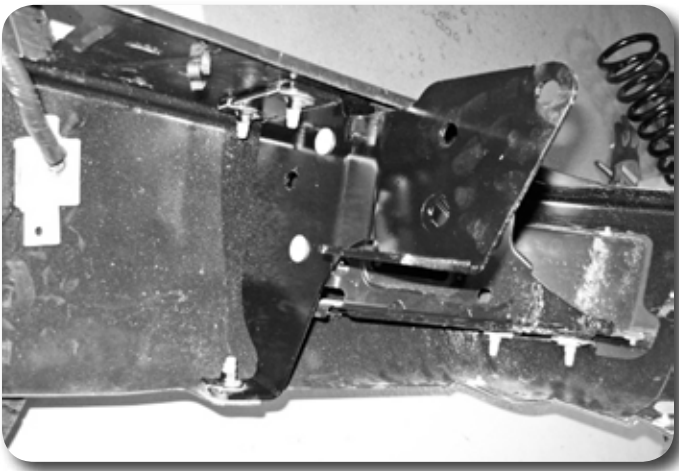

Figure 21
10. Remove the factory bumper brackets from the rear bumper. The black caps will have to be removed by releasing the plastic clips to access the upper bolts. Replace the brackets as they were removed with the Zone bumper brackets using the factory hardware. Figure 21.